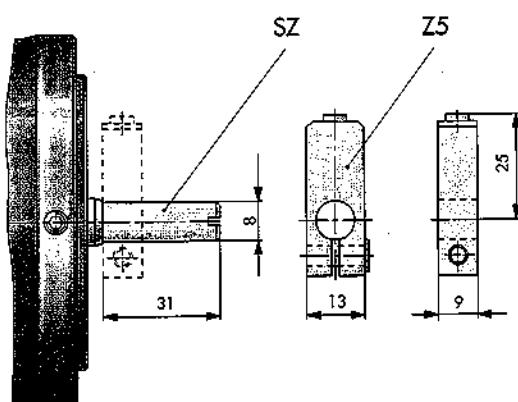

figure 3
The pin (figure 3) allows fitting of cams (option Z5) or other control equipment and screws into the tapping provided at the back end of the shaft where it can be secured with a metal adhesive, if required. It should not be used for torque transmission or limiting the angle of rotation.
The cam Z5 (figure 3) is clamped onto the locating pin SZ and serves to operate the proximity switches. If two proximity switches are required, two cams are fitted. Both cams remain individually adjustable.
- including SZ and Z5 (figure 3)